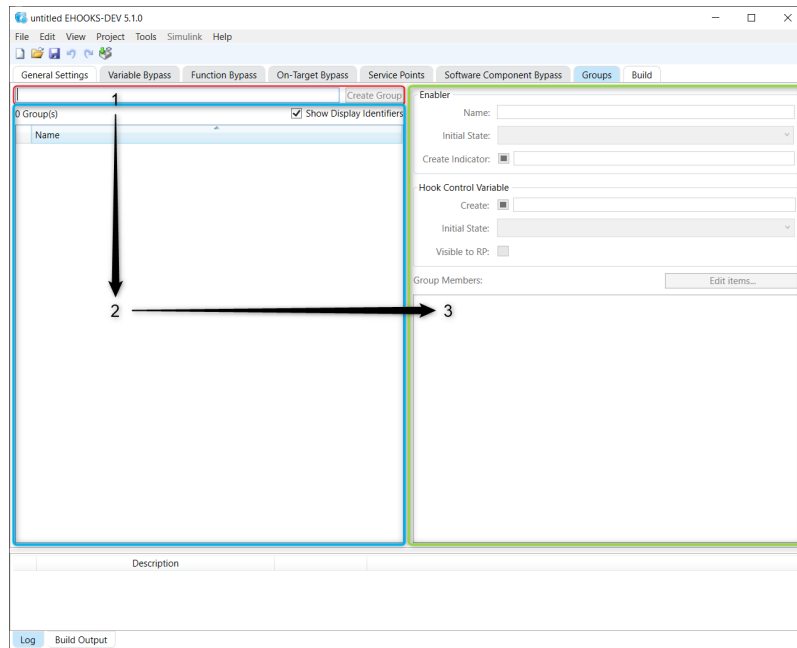

Figure 5.31: Group Configuration
- Step 1: Add a group (see red highlight in figure 5.31) by specifying a group name and click **Create Group**.
- Step 2: Provides a list of the configured groups (see yellow highlight in figure 5.31). To
- Step 3: Configure the properties to provide the desired group configuration for the selected group (see green highlight in figure 5.31).